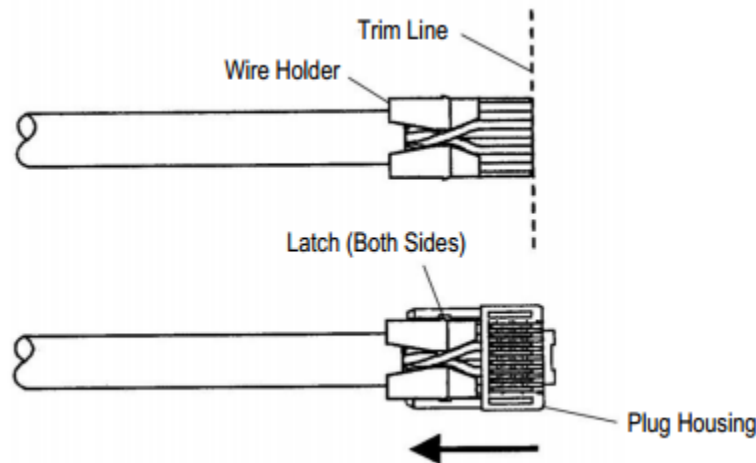

Figure 7. Trim Conductor Pairs
5. While holding all conductors down against the wire holder in a flat layer, trim all conductors evenly and square with appropriate tooling, just beyond the front edge of the wire holder as shown in Figure 7.